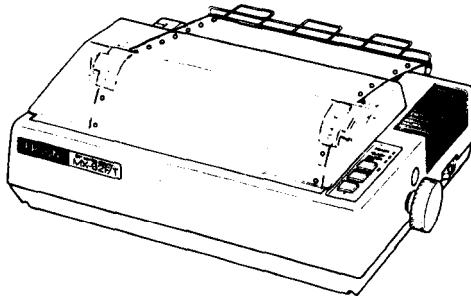

Fig. 33 Printer with Fanfold Paper Set Completely
10. Put the printer lid on the Printer. (See Fig. 33)